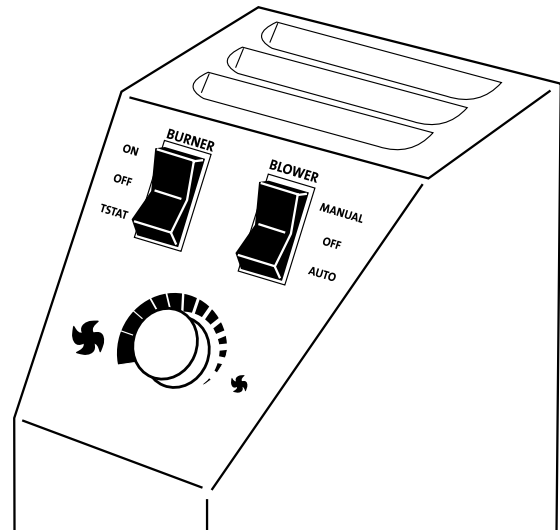

Figure 40. Burner Switch and Optional Blower Controls
1. Once the pilot is lit, burner operation is controlled by the rocker switch located at the left rear corner of the stove. Use the T-STAT position for the optional thermostatic or remote control functions. See fig. 40.